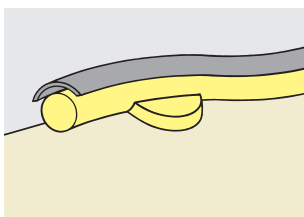

Fig. 3
- For resilient restorations, the tin spacer groove is adapted occlusally along the entire length of the bar (Fig. 3). Once the acrylic has been packed, the spacer can be removed. Fit the desired number of bar riders.